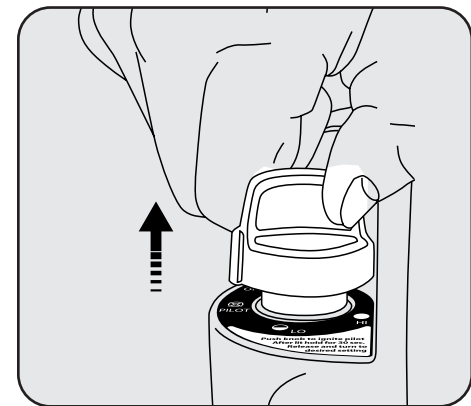

Figure 4
6. After pilot lights, hold down for 30 -60 seconds and then release knob. Knob should return to fully extended position. See Figure 4.
- After pilot lights, hold down for 30 -60 seconds and then release knob. Knob should return to fully extended position. See Figure 4 on previous page. The pilot should remain lit.